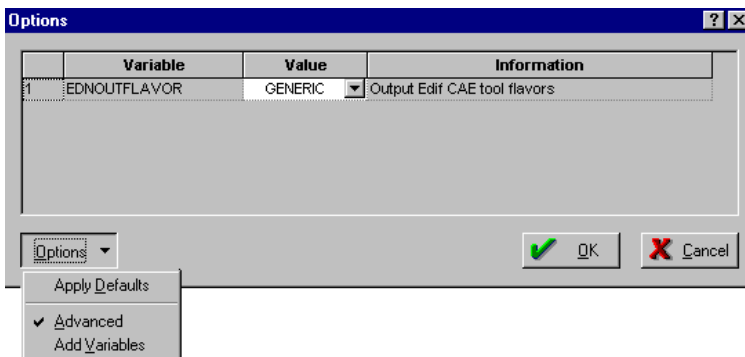
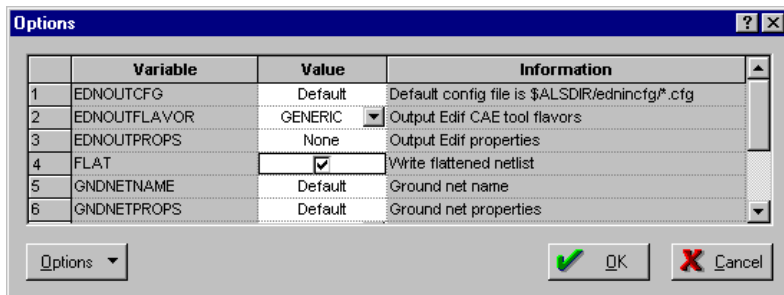

Figure 5-22. Write Netlist Options Dialog Box
Figure 5-23. Write Netlist Options with Advanced Features Enabled
2. **In the Write Netlist dialog box, select Options.** This displays the Write Netlist Options dialog box, as shown in Figure 5-22.
3. In the Write Netlist dialog box, click on the options pull-down and select advanced, as shown in Figure 5-22. This displays advanced features of the Write Netlist Options dialog box, as shown in Figure 5-23.
4. Turn on the flatten netlist feature by clicking the value for FLAT, so that a check appears in the box, as shown in Figure 5-23. Click OK.